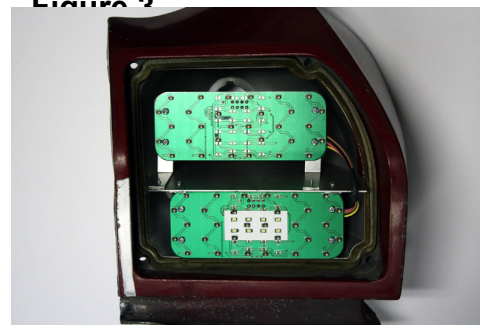

Figure 4
- 4.4. For each side, pass the wire Pink wire from the upper LED panel through the grommet hole and feed the wired bulb base through the bulb socket hole. Then align the mounting bracket screw holes with the Inboard set of mounting holes drilled earlier. Then secure the panels to the flange with 2 - #4 x 3/8" screws coming up from the bottom, passing through the drilled holes and tightening into the holes in the brackets. (See Figure 4)
- 4.5. For each side, feed the wired bulb base through the bulb socket hole. Route the interconnect wires through the slot filed in the flange and position the lower panel in the lower light chamber. Then align the mounting bracket screw holes with the Outboard set of mounting holes drilled earlier. Then secure the panels to the flange with 2 - #4 x 3/8" screws coming down from the top, passing through the drilled holes and tightening into the holes in the brackets. (See Figure 4)